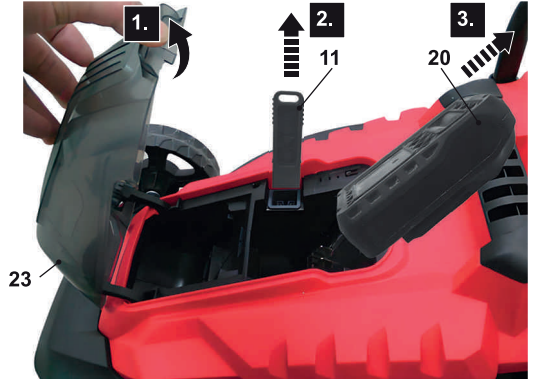

Fig. 1
1. Open the transparent cover (23), then remove the safety key (11) and battery pack (20) (Fig. 1).